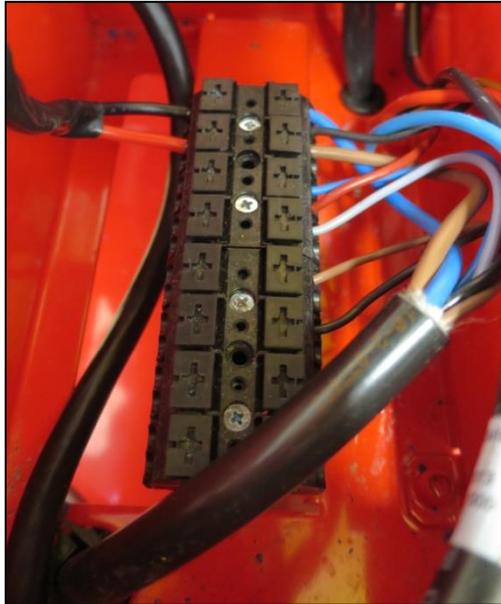
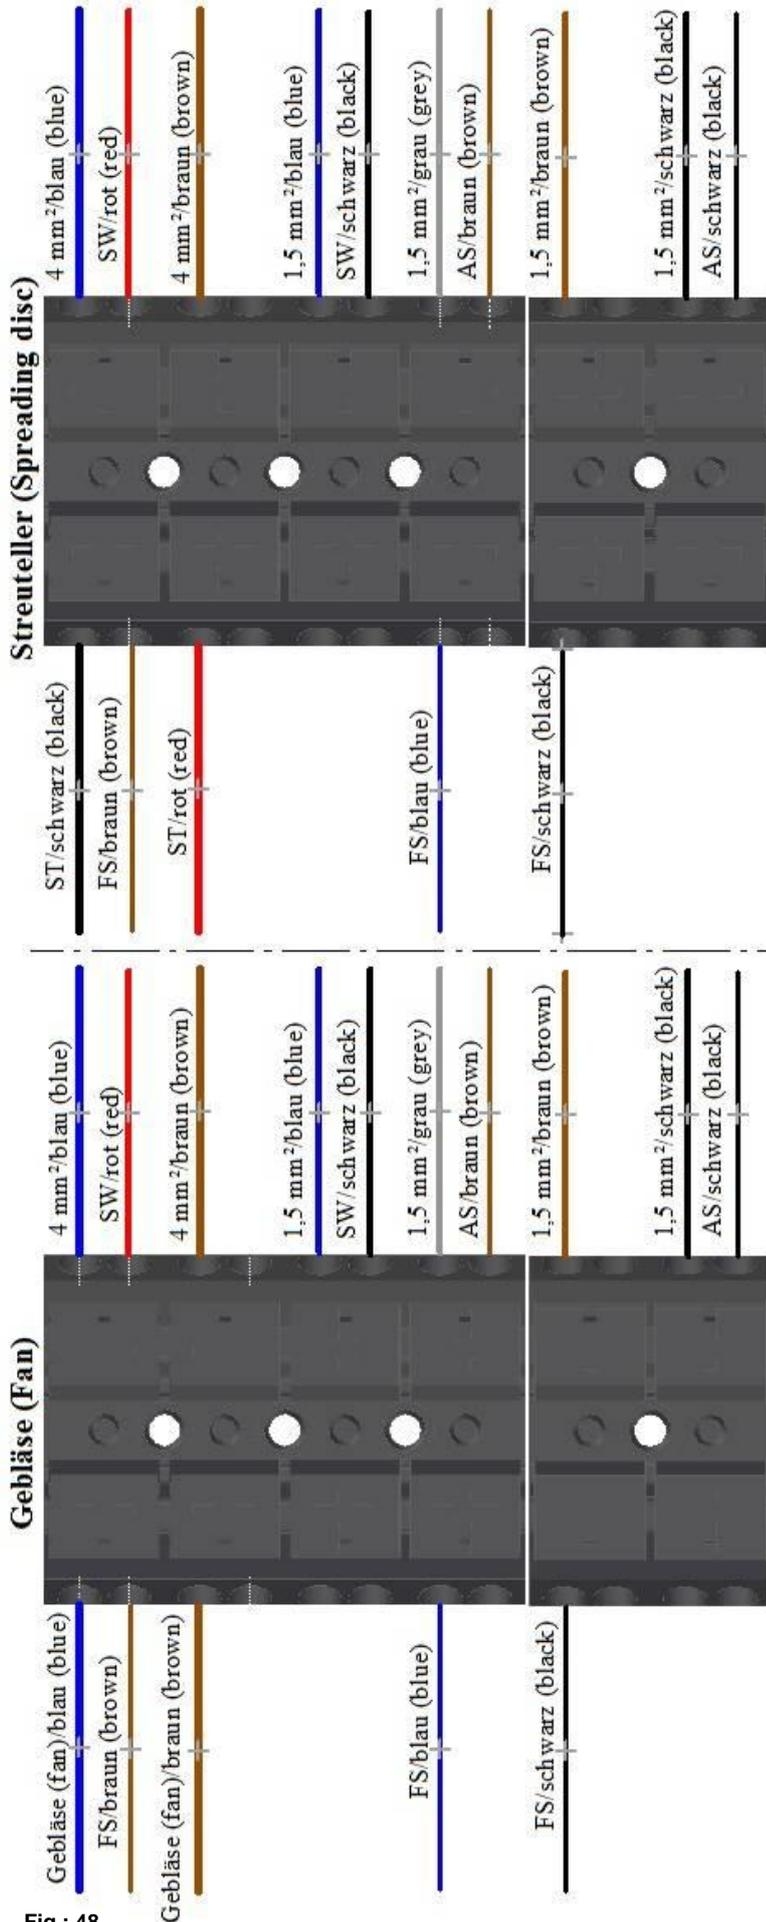
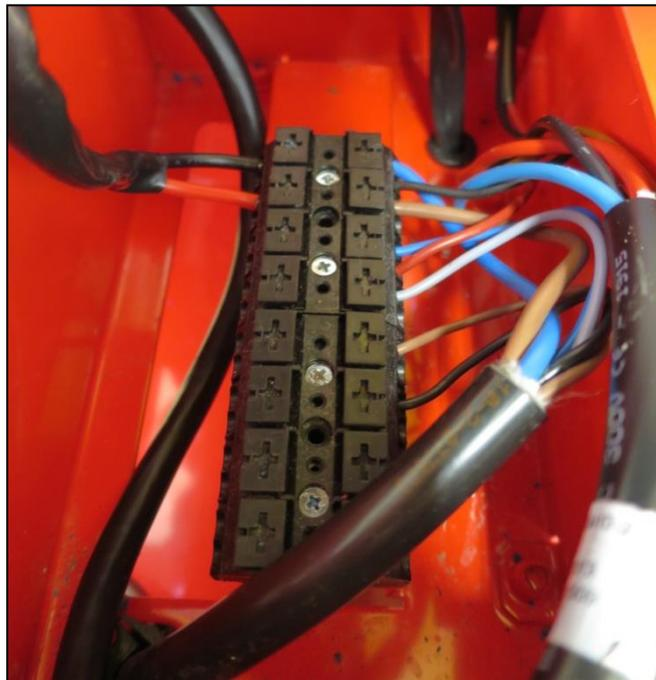

Fig.: 47
Fig.: 48
Fig.: 69
Connect the cable of the spreading plate motor (black, red), as shown on the connection diagram in Fig.: 48 (see page 23), on the left side of the terminal strip (Fig.: 47).
- Disconnect the cable (black, red) connected on the left side of the terminal strip (Fig.: 69), as shown on the connection diagram (see P. 23, Fig.: 48).
- Then connect the cable on the left side of the terminal strip (Fig.: 75) according to the connection diagram (see page 23, Fig.: 48). Now close the cover again with the previously loosened hexagon bolt (Fig.: 76).